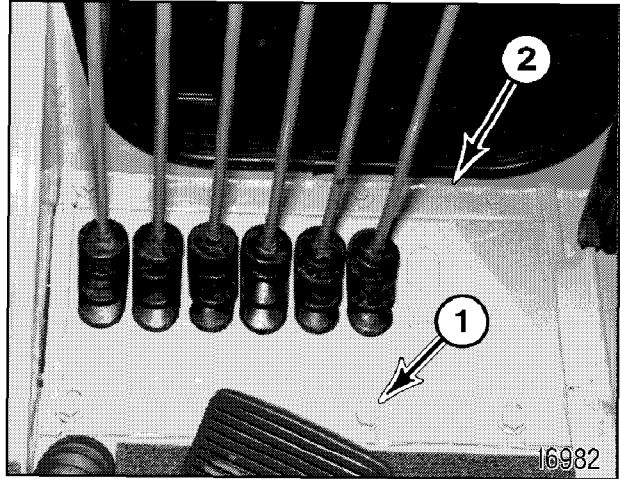

Figure 8
4. Remove eight bolts and flat washers (1, Figure 8) securing cover assembly (2) to cab deck.